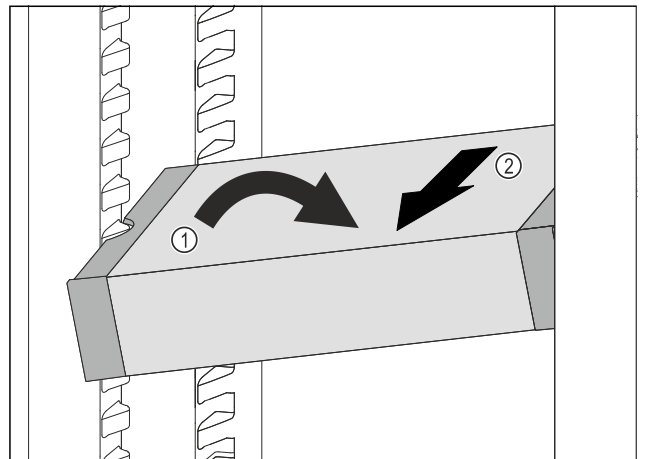

Fig. 126
- ▶ Set VarioSafe in refrigerator compartment at an angle. Fig. 126 (1)
- ▶ Take VarioSafe out to the front. Fig. 126 (2)